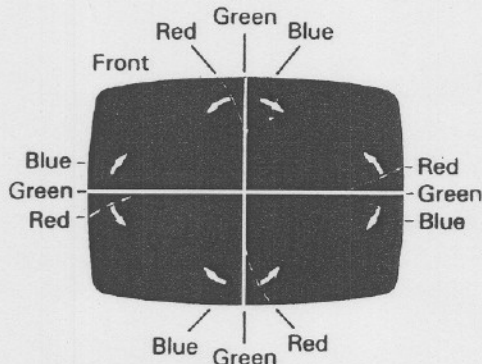

Figure 3-12. Directions of convergence error when the front of the deflection yoke is tilted upwards
2. Tilt the yoke up or down to effect best overall convergence at the screen edges. Refer to Figure 3-12 which shows the direction of convergence error where the yoke is tilted upwards. Tilting the yoke downwards moves red and blue in directions opposite to that shown.